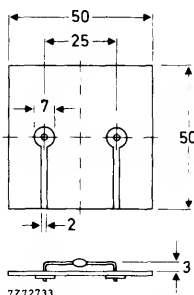

Fig. 2 Mounted on a printed-circuit board.
2. Thermal resistance from junction to ambient when mounted on a 1,5 mm thick epoxy-glass printed-circuit board; Cu-thickness ≥ 40 μm ; Fig. 2